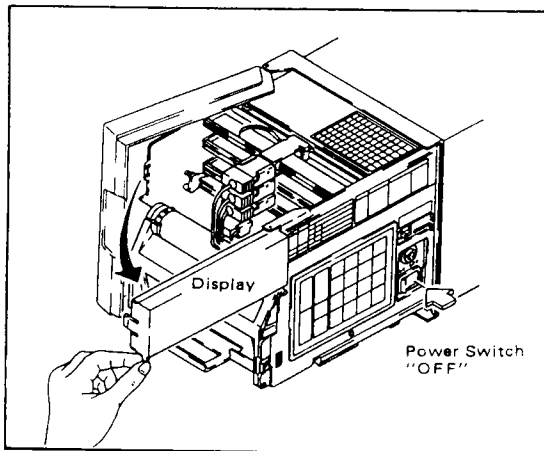

Figure 5-10.
(2) Switch power off by pressing the "POWER" switch to the "OFF" position. The power switch is located on the right side of the extended unit next to the key pad and just under the key lock. (See Figure 5-10.)
- (3) Swing open the display door by grasping the small tab located at the front lower left corner of the display cover and gently pull outward. (See Figure 5-10.)